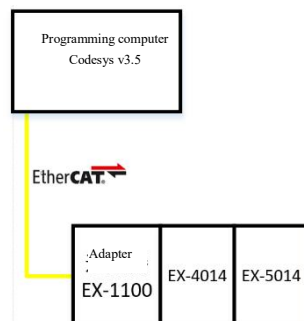

Figure 5-1-17 Communication connection diagram
1. Communication connection diagram, as shown in Figure 5-1-17.